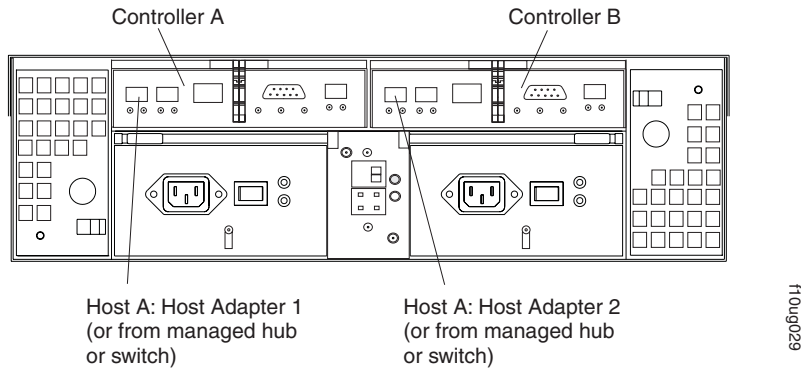

Figure 44. Location of host cables
2. Connect the host-system cables to the RAID controller or to switches. Figure 44 on page 50 shows the location on the RAID controllers where the host-system cables connect.